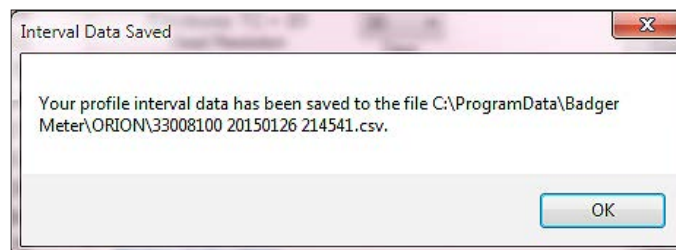

Figure 58: Save file confirmation
**Save Data** Select to save the profile data. A window displays with a message that confirms the save and the location of the file as shown in Figure 58. Tap **OK** to close the window.